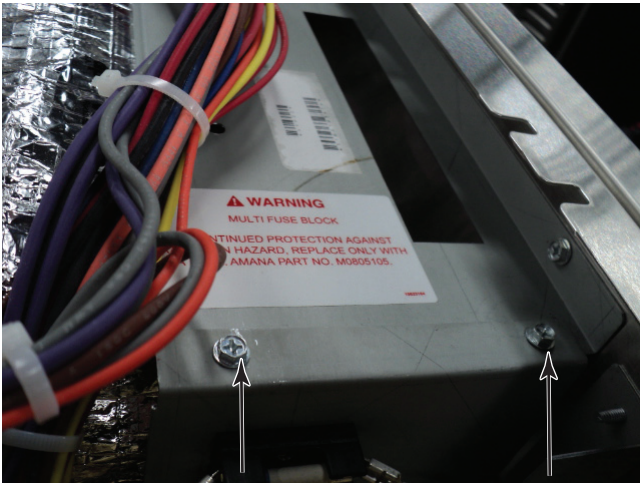

Figure 5
6. Remove two fuse panel mounting screws (Figure 5).